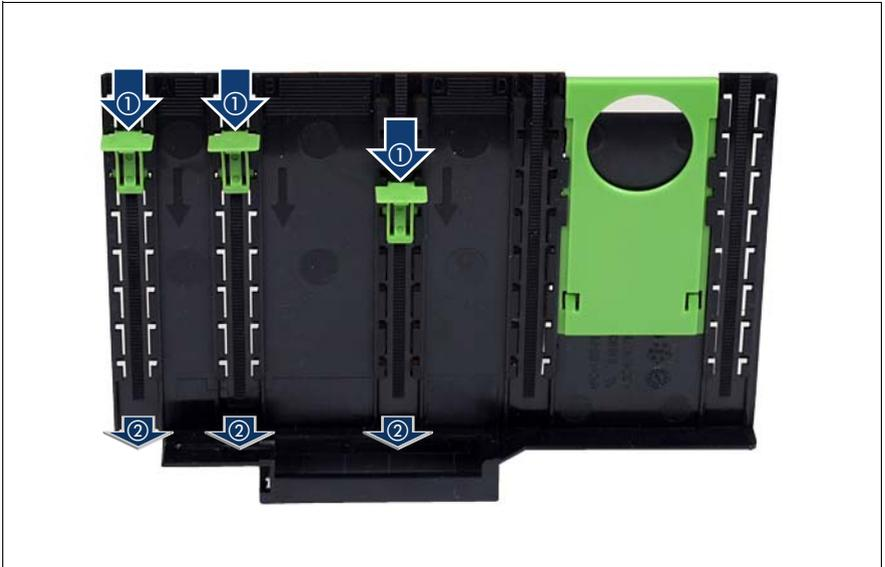

Figure 30: Removing engaging hooks from the removal tool
- ▶ Push the engaging hooks down until they disengage from the removal tool (see figure 30 on page 111), and keep them in a safe place.